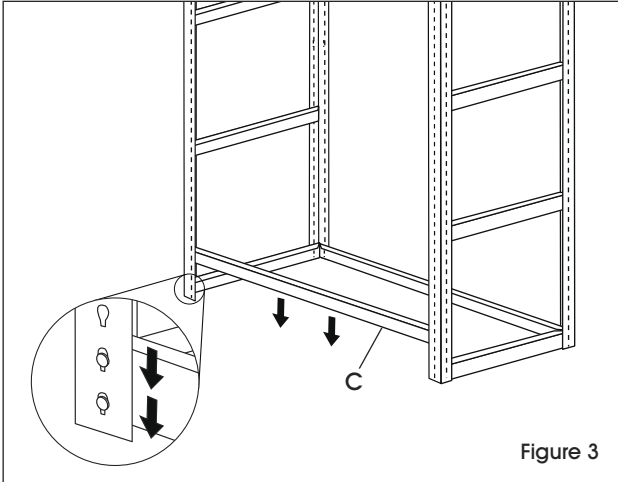

Figure 3
4. Connect the two upright post assemblies by inserting front/back supports (C) at the top and bottom of each upright post. (See Figure 3)
5. Repeat step 4 for installation of the remaining front/back supports (C).